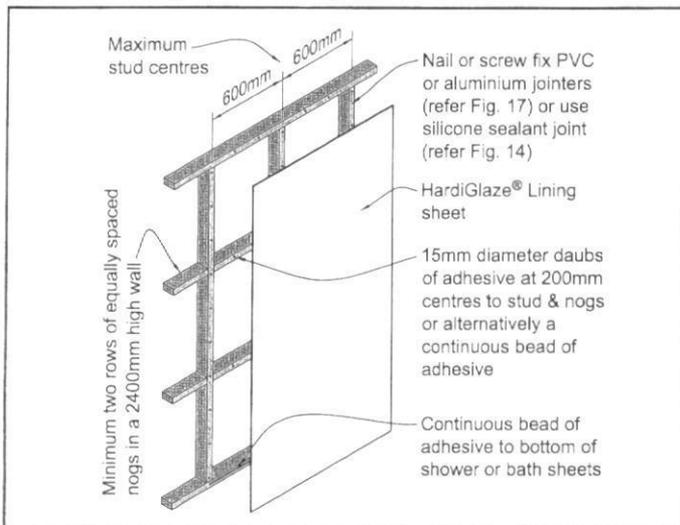

FIGURE 7: HARDIGLAZE LINING SHEET FIXING TO WALLS INCLUDING SHOWER CUBICLES - ADHESIVE METHOD
- Place daubs of wallboard adhesive on intermediate studs or battens and nogs at 200mm centres (refer Figures 7, 8 and 9)